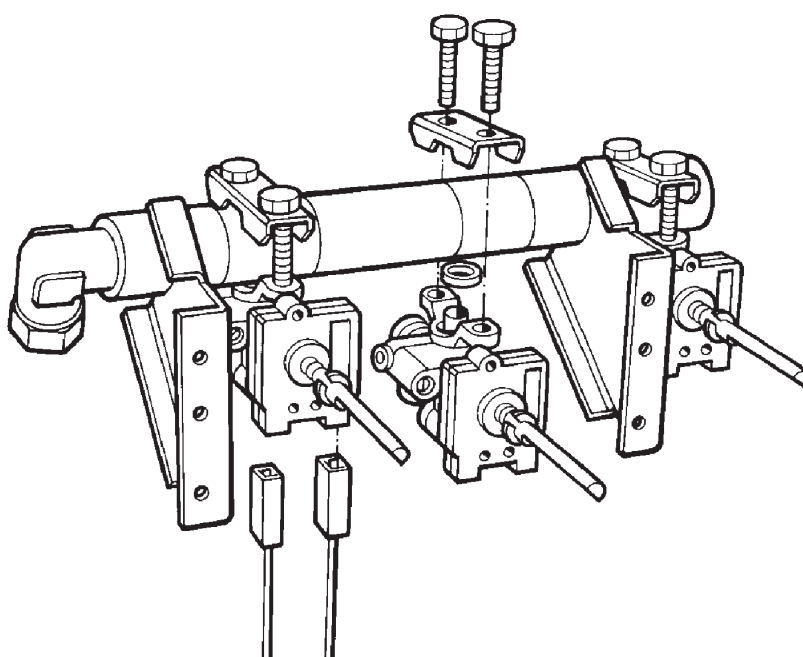
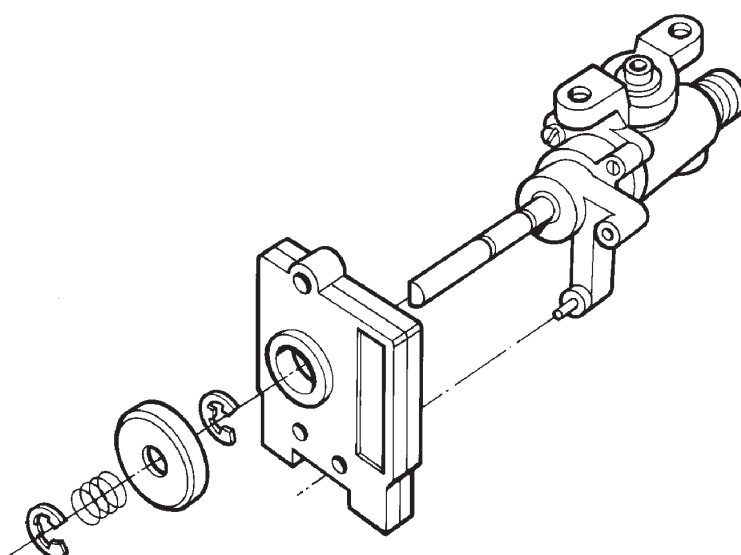

Fig. 28
Fig. 28A
3. Disconnect gas rail feed pipe (19mm nut). (See Fig. 28)
5. Remove (10) screws fixing gas rail support panel and gas rail.
6. Disconnect ignition switch cables. Lift away inner facia and move clear, do not stress wires on thermostats. (See Fig. 28).
8. Remove bolts (2) and clamp fixing to gas rail and withdraw tap from gas rail
9. Remove clip on tap spindle, then remove spring, washer and ignition switch. Ensure new switch is fitted with tab towards tap. (See Fig. 28A).